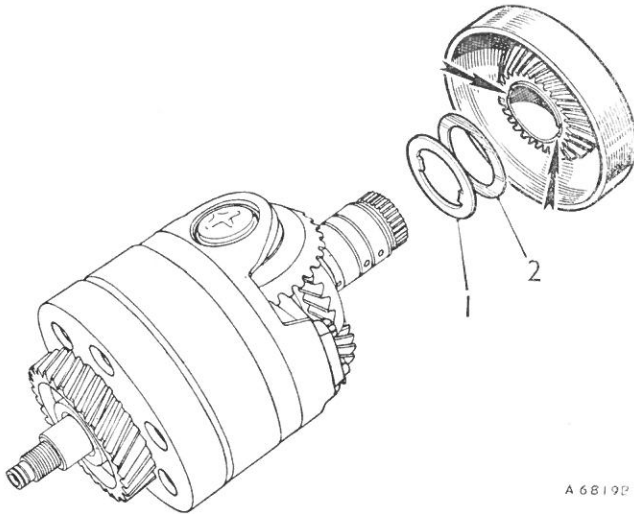

Fig. Fa.42
- (22) Assemble the third speed reaction gear with its bi-metal washer fitted with the white metal face towards the reverse output gear (see Fig. Fa.42) and with the steel shim(s) located between the bi-metal washer and the gear.
Retain each washer and shim in position with petroleum jelly and refit the assembly to the gear train (see Fig. Fa.42).